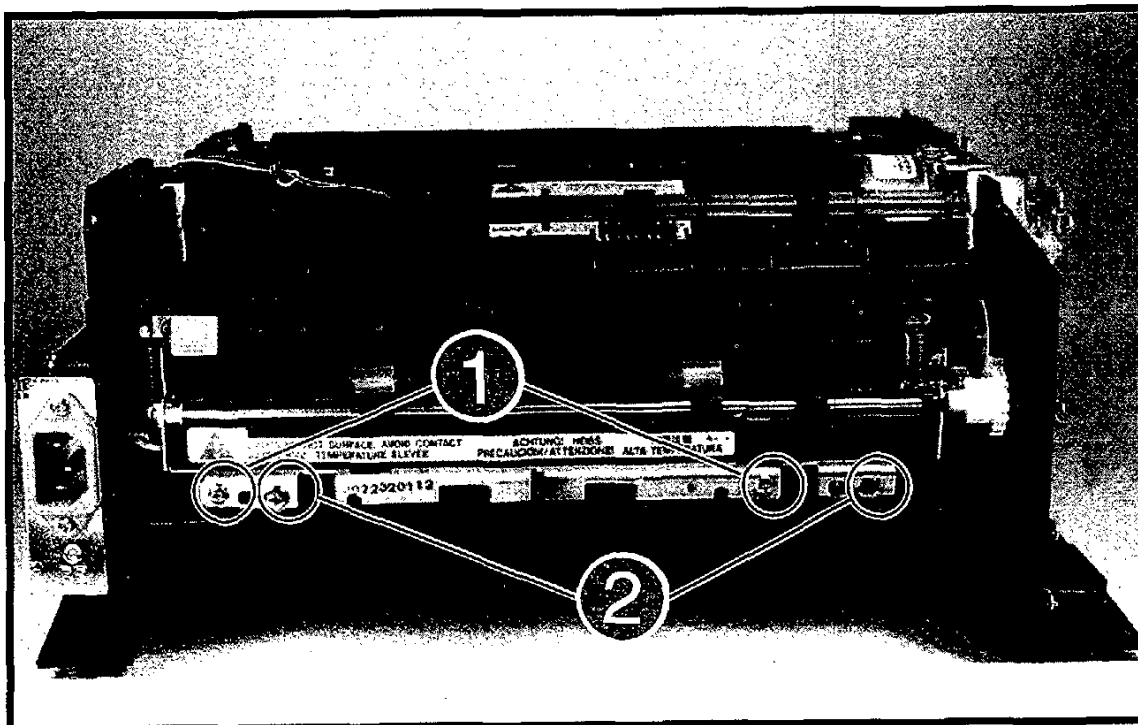
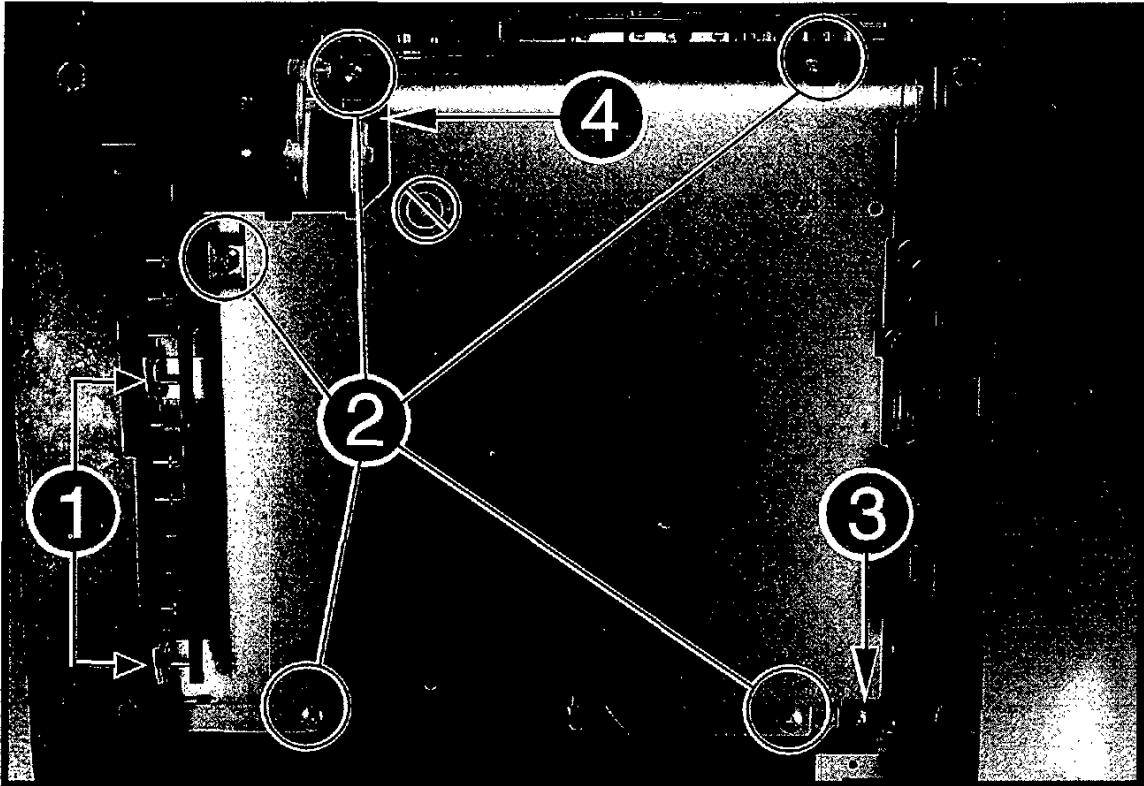
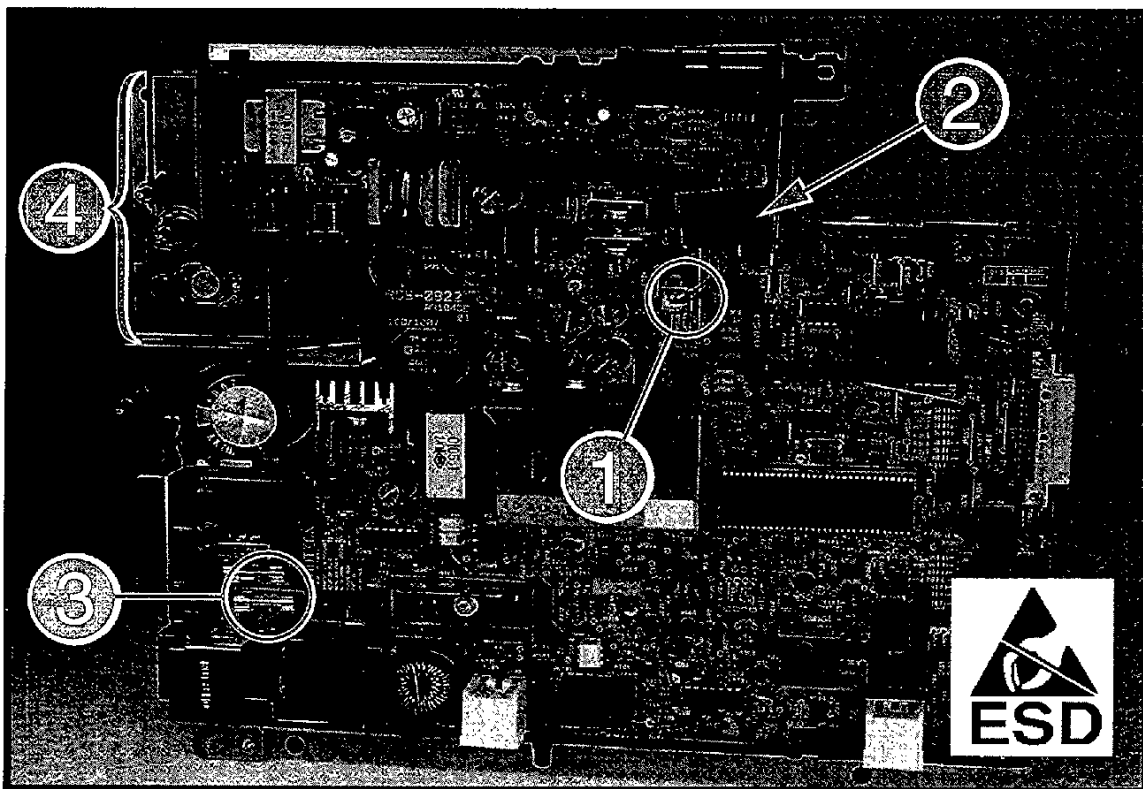
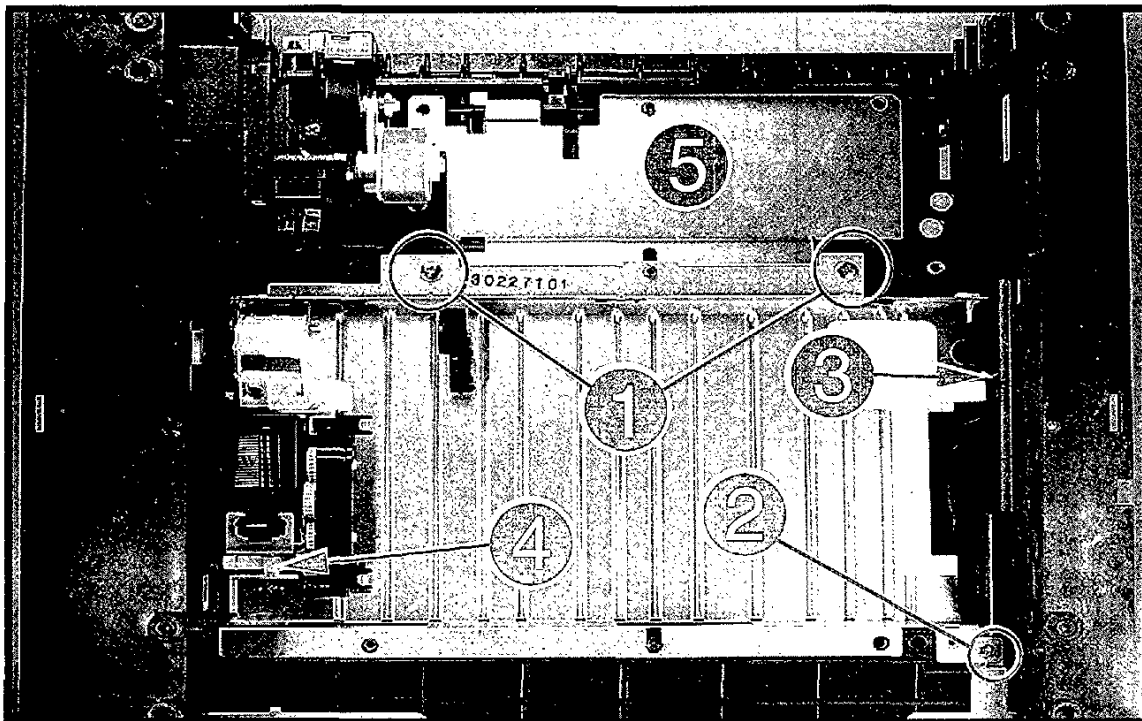

Figure 6-27 Removing the Fusing Assembly (LaserJet 4P shown)
Figure 6-36 Removing the DC Controller Assembly
Figure 6-37 Pickup Feed Roller Solenoid (on DC Controller PCA)
Figure 6-44 Removing the Feeder Guide Assembly (*LaserJet 4P* shown)
2. Remove the machine screws with star washers (1 on 4L/4ML, 2 on 4P/4MP) (Figure 6-27, callout 1).
3. Remove the (2) self-tapping screws (Figure 6-27, callout 2).
1. Remove the Printer Cover, the Fusing Assembly (Figure 6-27), the Formatter Shield and PCA (Figure 6-13), and the Power Switch Assembly (*LaserJet 4P/4MP only* - Figure 6-23).
2. Remove the (2) screws that attach the grounding springs to the Gear Train Assembly (Figure 6-36, callout 1).
3. Remove the (5) self-tapping screws and the (1) machine screw from the bottom of the DC Controller Assembly (Figure 6-36, callouts 2 and 3). Do not remove the Pickup Solenoid screw (crossed circle in Figure 6-36).
4. Push the Pickup Feed D-Roller solenoid arm in and rotate the D-Roller down, clear of the solenoid arm (Figure 6-36, callout 4).
When removing the DC Controller Assembly there will be resistance where the connectors are attached (on the left in Figure 6-36). A firm tug may be necessary to free the assembly.
When reinstalling the DC Controller, be sure to use a short length (6 mm) machine screw at Figure 6-36, callout 3. A longer (10 mm) screw will obstruct the Fusing Assembly.
1. Remove the Fusing Assembly (Figure 6-27), the Formatter Shield and PCA (Figure 6-13), and Power Switch Assembly (*LaserJet 4P/4MP only* - Figure 6-23), and the DC Controller Assembly (Figure 6-36).
2. Remove the (1) machine screw holding the Pickup Solenoid from the lower side of the DC Controller Assembly (the crossed circle shown in Figure 6-36).
3. Unplug the Pickup Solenoid connector (Figure 6-37, callout 1) and remove the solenoid (Figure 6-37, callout 2).
There are two in-line fuses (one on 220 V units) on the component side of the DC Controller PCA (shown in Figure 6-37, callout 3). (The rated amperages are printed on the PCA.) Pull outward to remove.
This assembly is mounted on the component side of the DC Controller PCA, and provides high voltage contact points to the toner cartridge (shown in Figure 6-37, callout 4). To remove, press the two tabs in on either side of the cover and lift it straight up and off.
2. Remove the DC Controller Assembly (Figure 6-36), Pickup Solenoid, and High Voltage Connector Assembly (Figure 6-37).
1. Remove the Printer Cover, the Fusing Assembly (Figure 6-27), the Formatter Shield and PCA (Figure 6-13), the Power Switch Assembly (*LaserJet 4P/4MP only*- Figure 6-23), and the DC Controller Assembly (Figure 6-36).
1. Remove the Printer Cover, the Fusing Assembly (Figure 6-27), the Formatter Shield and PCA (Figure 6-13), the Power Switch Assembly and Font Cartridge Bracket (*LaserJet 4P/4MP only*-Figure 6-23 and 6-16), and the DC Controller Assembly (Figure 6-36).
2. Remove the (2) self-tapping screws and the (1) machine screw from the Feeder Guide (Figure 6-44, callouts 1 & 2).
3. *LaserJet 4P/4MP*: Push the power switch grounding strap outward to provide clearance (Figure 6-44, callout 3).
*LaserJet 4P/4MP*: Carefully free the Small Media Roller drive shaft before lifting upward to avoid damage (Figure 6-44, callout 4).
*LaserJet 4P/4MP*: Carefully align the Small Media Roller drive shaft (Figure 6-44, callout 4) before installing the Feeder Guide.
1. Remove the Printer Cover, the Fusing Assembly (Figure 6-27), the Formatter Shield and PCA (Figure 6-13), the Power Switch Assembly (*LaserJet 4P/4MP only*- Figure 6-23), the DC Controller Assembly (Figure 6-36), and the Feeder Guide Assembly (Figure 6-44).
Carefully align the Small Media Roller drive shaft (Figure 6-44, callout 4) before sliding the Feeder Guide into place.
2. Remove the Laser/Scanner Assembly (Figure 6-21), the Gear Train Assembly (Figure 6-15), the DC Controller Assembly (Figure 6-36), and the Feeder Guide Assembly (Figure 6-44).